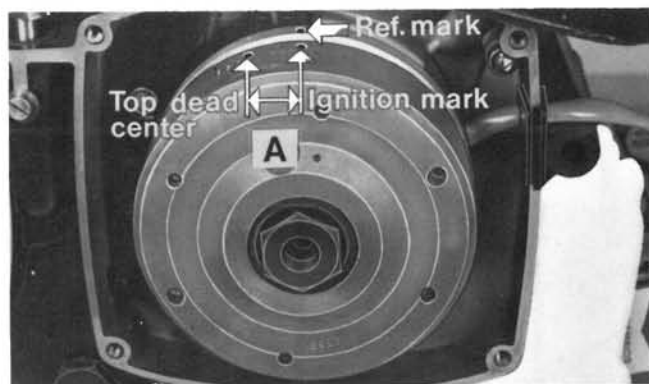

Fig. 38.2
3. Turn the flywheel (the ignition advance A) backwards and put a new mark in the flywheel, beside the reference mark in the crankcase. See fig. 38.2.